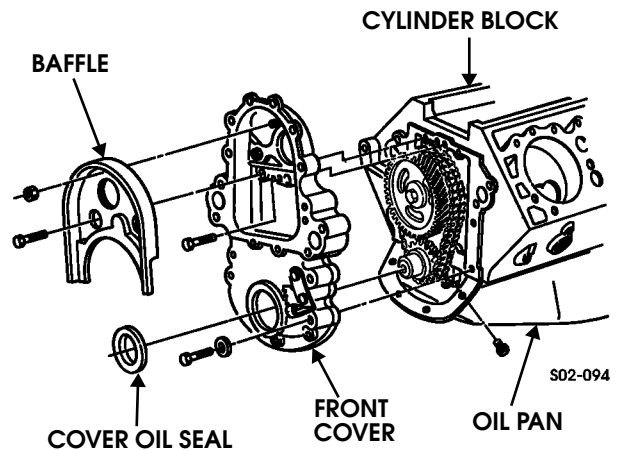

Figure 2-109: Front Cover and Baffle Removal
1. Remove baffle from front cover (Figure 2-109).